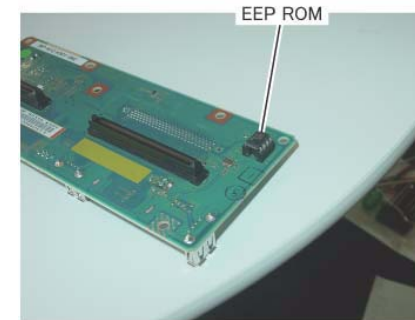

Figure 8 Remove the EEPROM from the old BP PWB
2. When replacing the BP PWB, remove the EEPROM from the old BP PWB and install it onto the new one. (Figure 8)